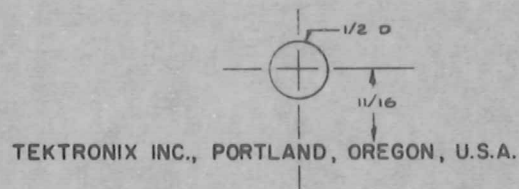

Fig. 1
- () 2. Center-punch and cut a 1/2 in. hole in the front panel and sub-panel, located as shown in Fig. 1.